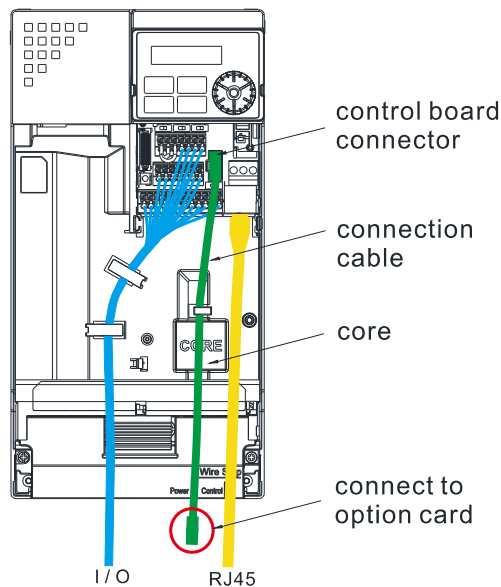

Figure 8-33
2. Assembling connection cables: Connect the connector at one end of the connection cable to the control board connector. For information on connection method, refer to Section 8-1 (see Table 8-2 and Figure 8-3). Wire them as Figure 8-33 shows and make sure the core place in the groove.